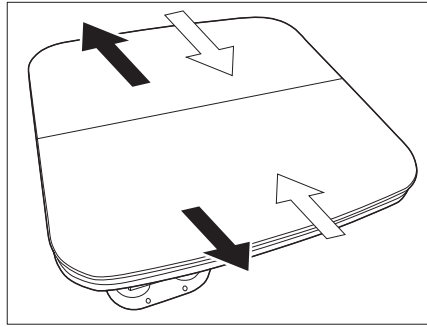

Fig. 103 Pull the outer parts apart
- Pull apart the outer parts of the table (Fig. 103 - black arrows).
- Push the outer parts of the table together (Fig. 103 - white arrows).